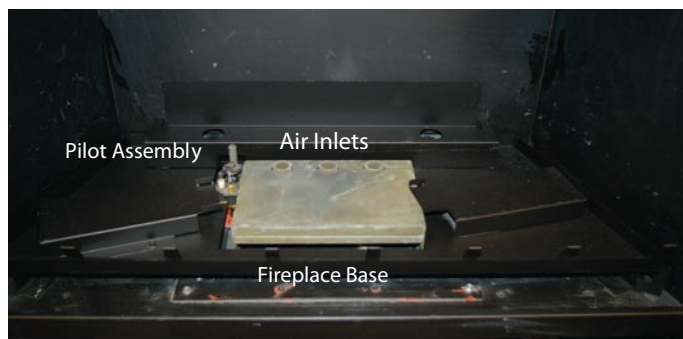
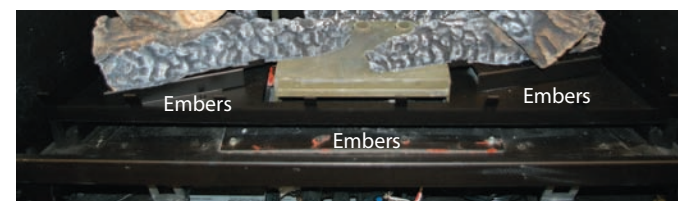

Figure 8a. H34VO's Fireplace Base.
Figure 8f. Placing Embers.
Step 7. Place the Embers as shown in **figure 8f**. Arrange the ember chips on top of the burner tray. Care should be taken when placing the embers, as blocked burner ports may cause an incorrect flame pattern, carbon deposits and delayed ignition. Also, the embers must never be placed in a way that obstructs any of the air inlet ports, located at the rear of the burner, as shown in **figure 8a**.